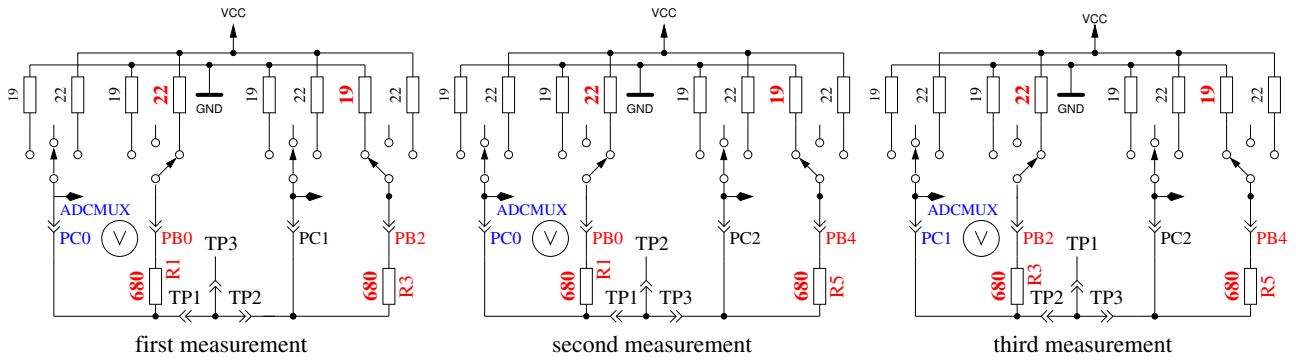

Figure 5.64. Comparison of 680Ω resistors
2. **Comparing of the 680Ω resistors.** In row 1 the cryptic text “+RL- 12 13 23” is shown. Meaning of this is as follows: The RL is the short form of Resistor Low meaning the 680Ω resistors. The 12 stand for: resistor at pin 1 is connected to VCC (+) and resistor at pin 2 is connected to GND (-). The result of this measurement is displayed in row 2 at the first place as difference to the theoretical value. In row 1 follows now a “13” which means, that the first connection of measurement 1 is still connected with 680Ω to VCC but that the resistor of pin 3 is connected to GND. The result is displayed in the middle place of row 2 as difference to the theoretical value. The last measurement of this test “23.” means that now the resistor at pin 2 is connected to VCC (+) and the resistor of pin 3 is connected to GND. The result of measurement is displayed at the last place of LCR row 2 as difference to the theoretical value. Please remember, that the resolution of the ADC is about $4.88mV$! The measurement situation is also shown in figure 5.64. The theoretical value with respect to the internal resistance of the pins should be: